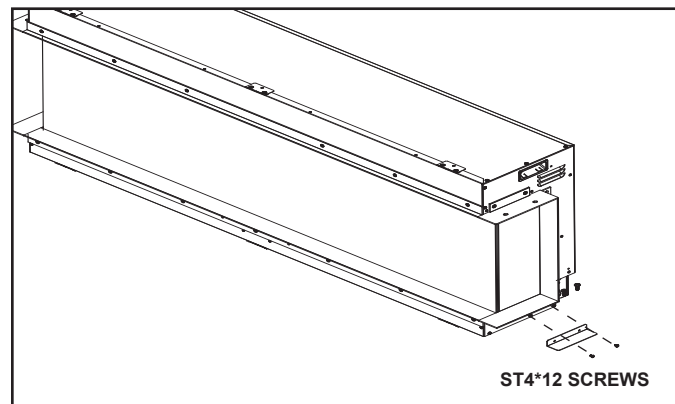

Figure 10
2. Attach the two bottom brackets, one (1) on each side to both sides of the appliance using four (4) ST4\*12 screws. See Figure 10.